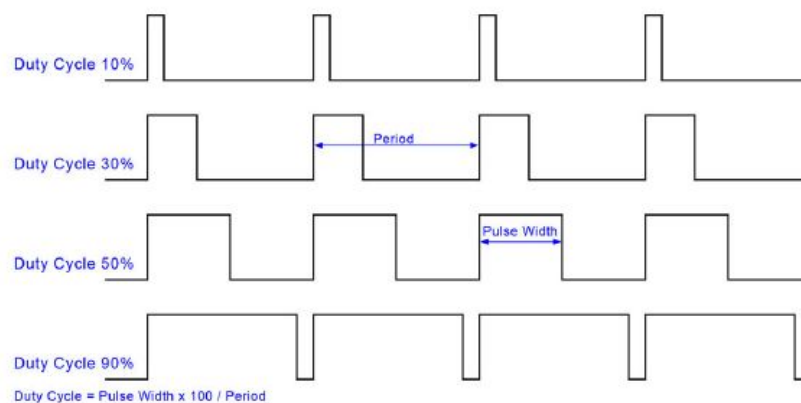

Figure 1: Pulse width modulation
2. You will configure the timer T0 to generate a pulse width modulated (PWM) signal whose duty cycle is controlled by the user. Figure 1 shows typical PWM signals. Read the switches P1.0-P1.2 to accept the duty cycle from the user. Write a program to generate a PWM with the duty cycle corresponding to the switch positions as indicated in Table 1.Set the frequency of PWM signal be 0.5 Hz and use the LEDs P1.4-P1.7 (though one is sufficient) to monitor the generated output. The PWM information has also to be written out on the LCD in the following format. First row of the LCD should display the duty cycle in percent as Duty cycle: xx ; where xx depends on the switch value. Second row should display the pulse width as Pulse width: tttt; where tttt represents $tttt \times 10^{-3}s$.